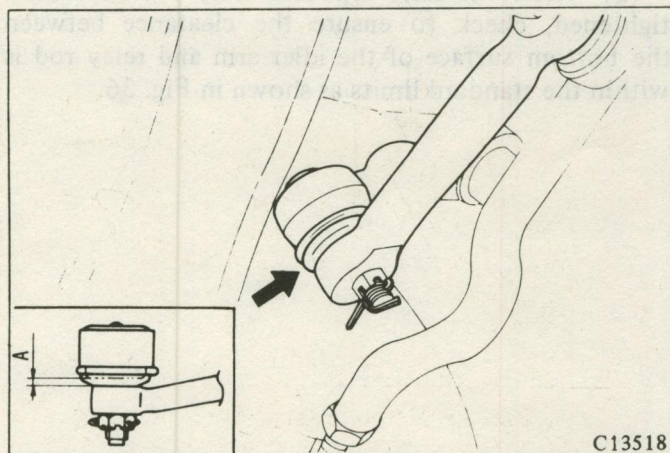

Fig. 36 Checking Relay Rod-to-Pitman Arm and Relay Rod-to-Idler Arm Clearance
(2) After the idler arm and relay rod have been tightened, check to ensure the clearance between the bottom surface of the idler arm and relay rod is within the standard limits as shown in Fig. 36.